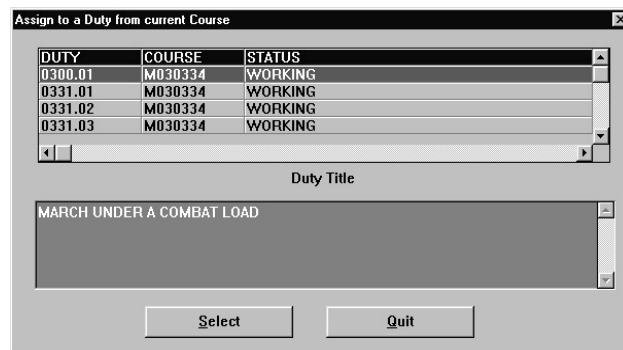

Figure 6-42. Assign to a Duty From Current Course
- (1) Click on **Yes**. The Assign to a Duty from Current Course selection list box (Figure 6-42) opens.